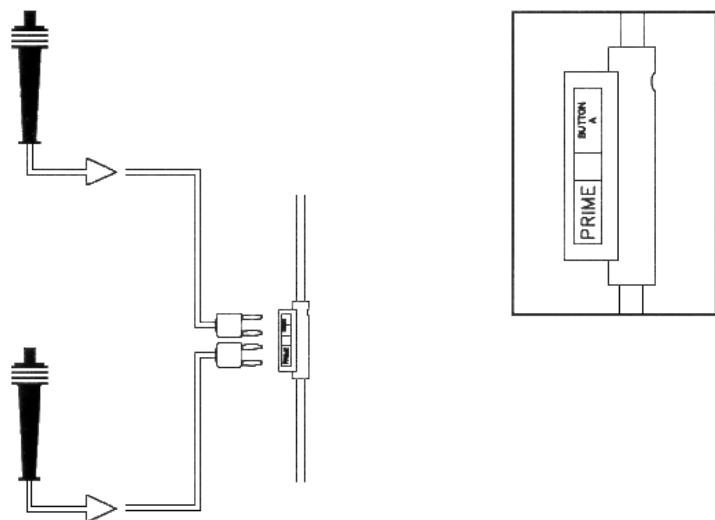

Figure 2-C Button Finish Connections
**Two Buttons:** If you are using 2 finish buttons, plug the second button into the A connector on the primary cable harness as shown in Figure 2-C. If a 2-button finish is used, the finish time is the average of the two button times recorded.